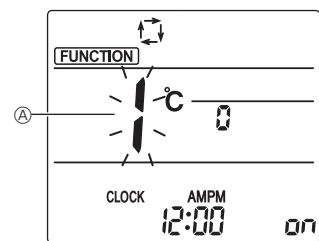
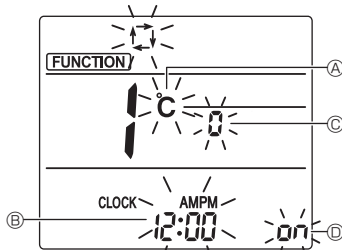

Fig. 6-8
Fig. 6-9
1. Press the **STOP** button ① to stop the air conditioner.
2. Press the **MENU** button ②.
- The Function setting screen will be displayed and the function No. A will blink. (Fig. 6-8)
- Press the **↑** button ④ to change the function No.
3. Check that function No. "1" is displayed, and then press the **SET** button ③.
- The display setting screen will be displayed. (Fig. 6-9)